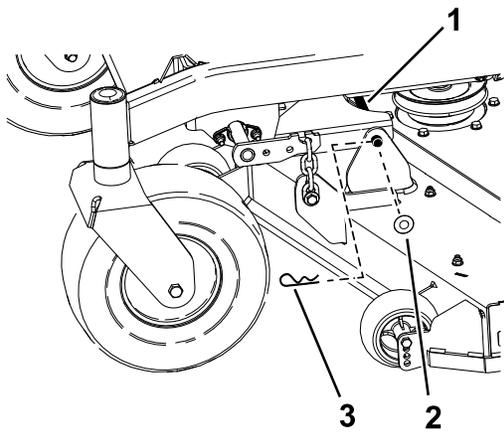

Figure 60
5. Remove the hairpin cotter and washer securing the link pin to the frame and deck, and remove the link bar (Figure 60).
- Secure the link pin with the hairpin cotters and washers removed previously (Figure 60).